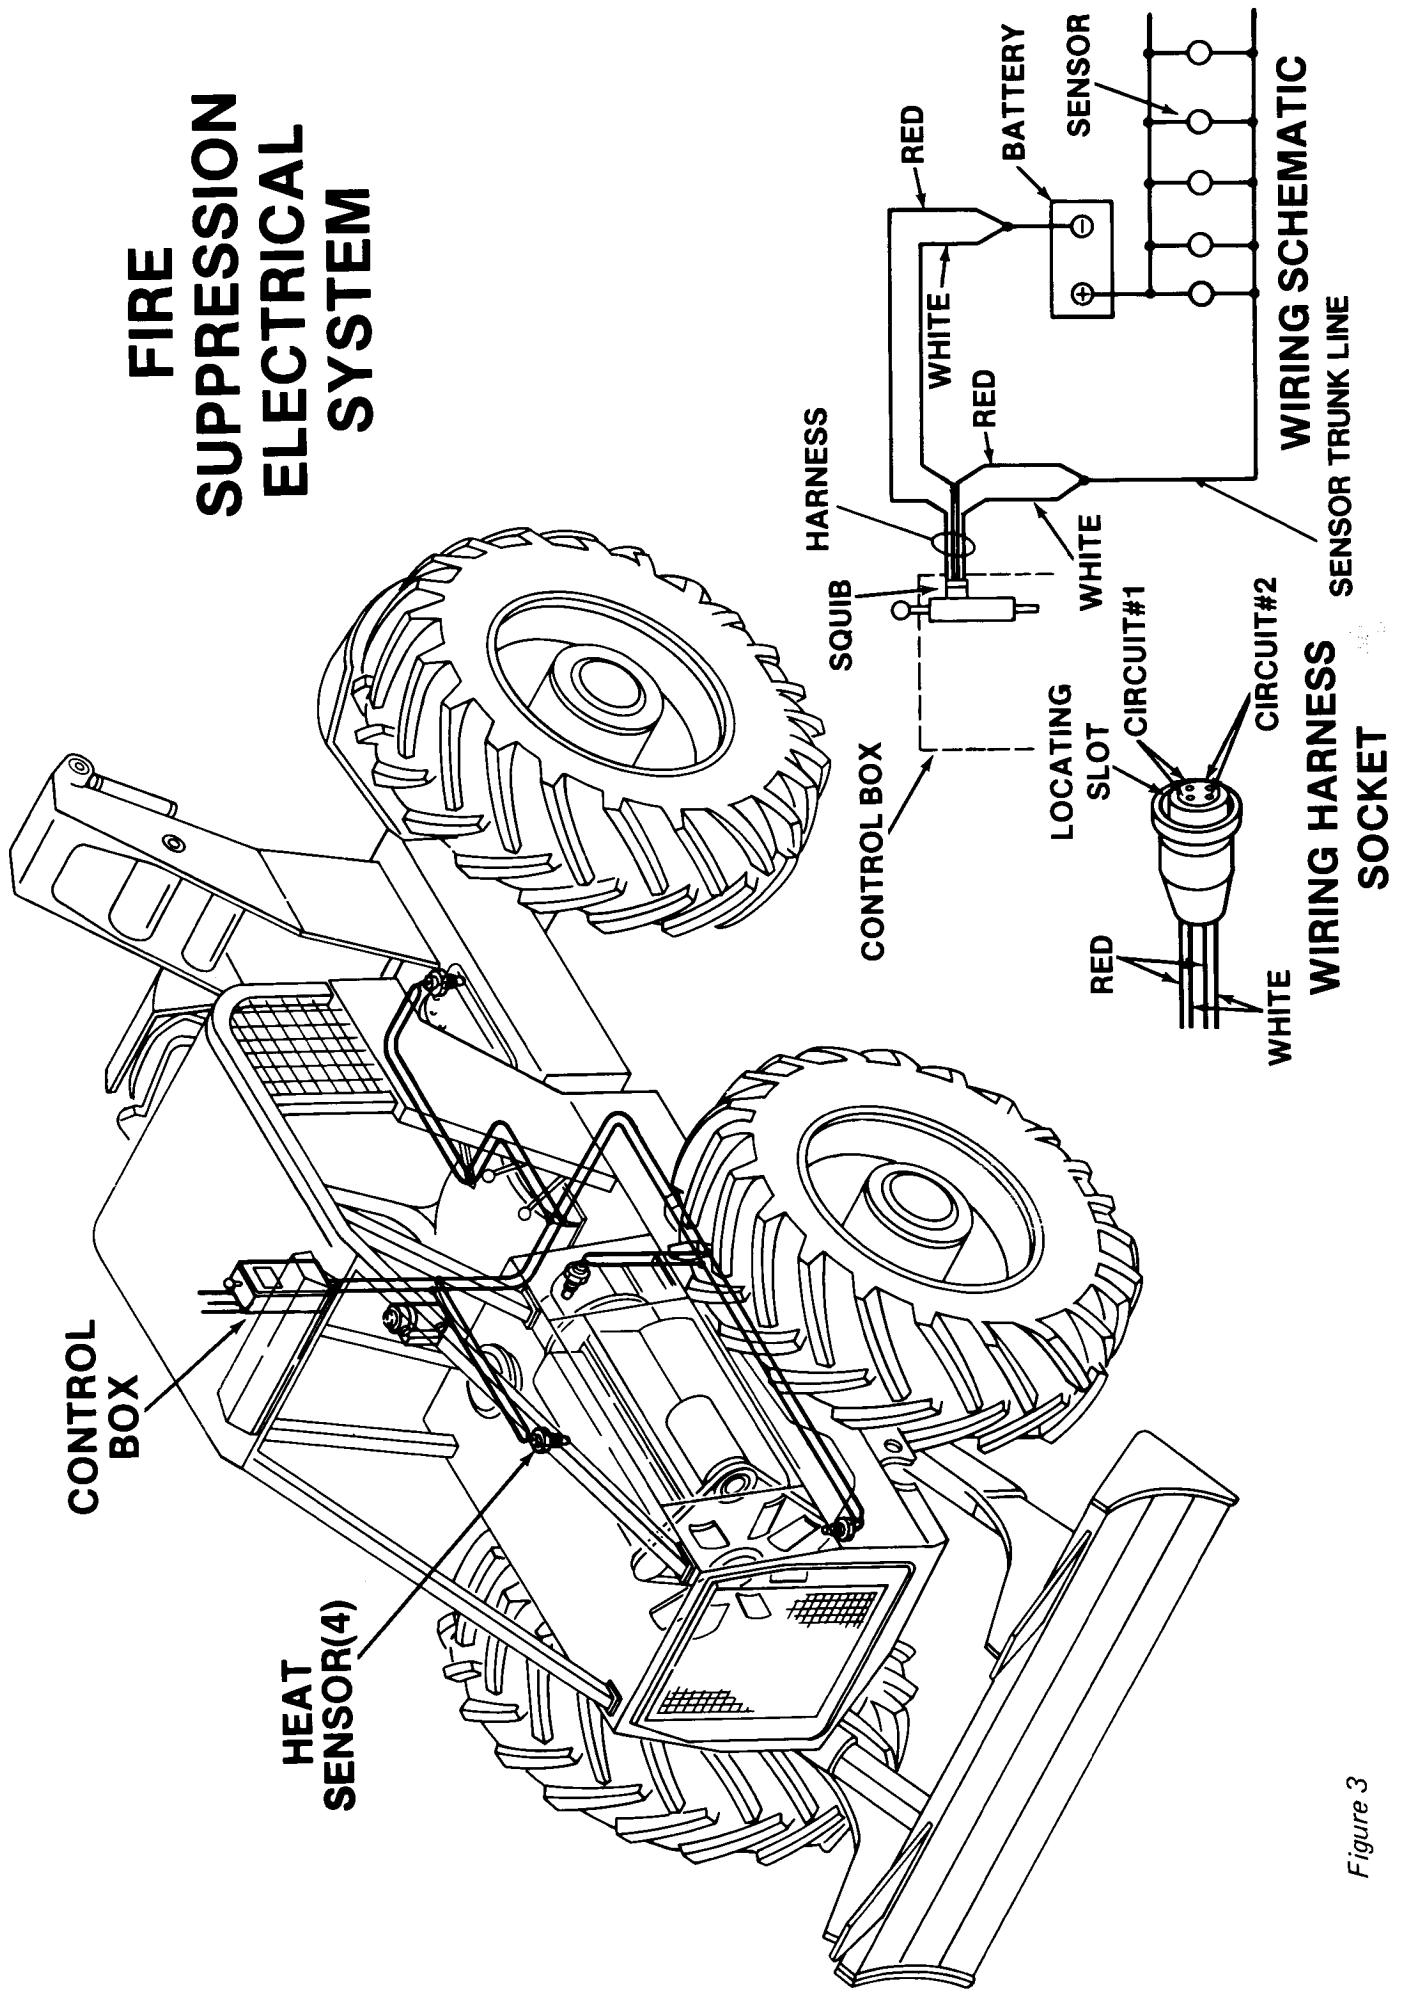

Figure 3
SENSORS (Reference Figure 3)
5. Mount other sensors and connect with high temperature wire in parallel circuit as shown in Figure 3.
6. To check system for shorts using a test light: (Reference figure 3)